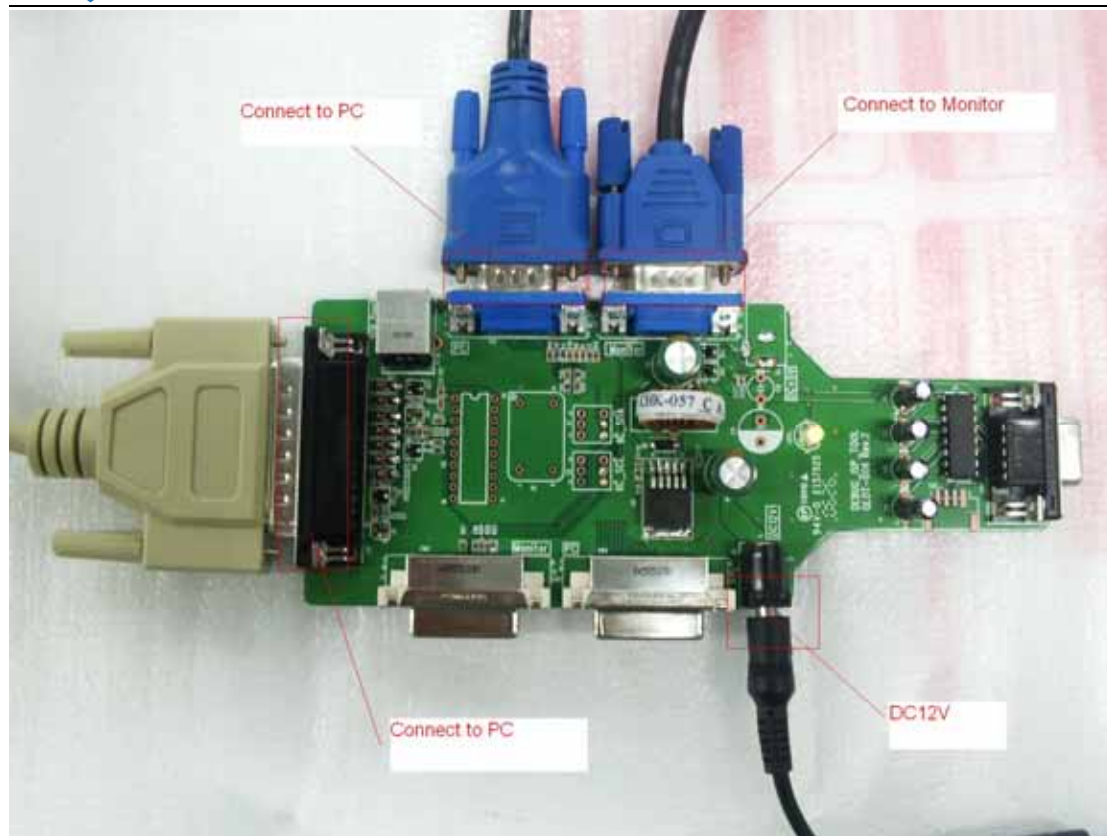

Fig 11
7.1 Connect the monitor and PC follow Fig 11